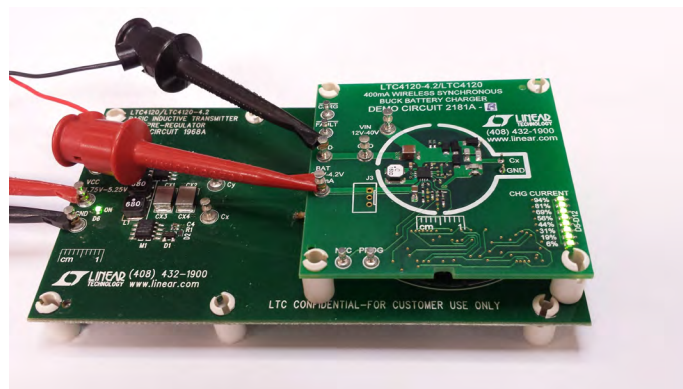

Figure 6c. DC2181A-A/B Wireless Power Demo Board Mounted on DC1968A Wireless Power Basic Transmitter
3. Place the DC2181A receive board on the transmitter as shown in Figure 5c, if you are using the PowerByProxi ProxiPoint transmitter. Or as shown in Figure 6c, if using the DC1968A. Note: for the ProxiPoint transmitter, the LED the ProxiPoint transmitter should change from green to solid red. If the LED turns blinking red, please remove the DC2181A board, wait until the LED turns green, and once again place the DC2181 on the transmitter. If the ProxiPoint transmitter LED does not change to solid red on the second try, please contact your FAE.